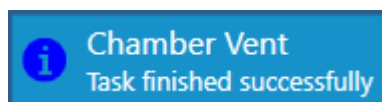

Figure 4-25 Vent finished
- 4 When venting is complete, the progress panel vanishes and a **Task finished successfully** panel displays for a short time at the bottom right of the page, see Figure 4-25.